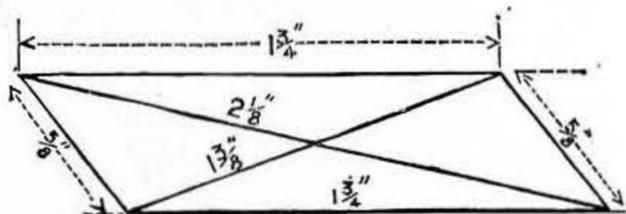
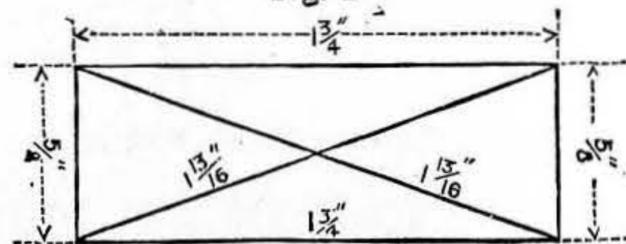

Fig. 1
Fig. 2
**Notes on Hand Saws.**—CHOPSTICK writes:—"Having read the article by M. Powis Bale on p. 421, I cannot resist the temptation to write a short criticism of the same, and I will state, at the beginning, that I am speaking from practice, while Mr. Bale is quite evidently speaking from theory alone. First, as to the form of teeth most suitable for different kinds of work. These most decidedly are for a hand saw, which everyone in the trade will know is meant for cutting across the grain only; the form shown in the article at Fig. 1 is the best. For a rip saw, that shown in Fig. 2. As to Fig. 3, it is most unsuitable for a hand saw of any kind, but is the right shape for a cross-cut for cutting logs, but for which is recommended the ridiculous shape shown in Fig. 7. Now as to the size of the teeth. For a hand saw, five teeth to the inch, and for a rip saw, three to the inch, is the best. And now a word or two as to sharpening and setting. The latter should be done first, and I advise everyone to stick to the old-fashioned set, and discard all patent spring delusions. With this and a proper taper saw file (a 4½ in. for a hand saw, and a 6 in. for a rip saw) I can, and so can everyone else if he tries, sharpen a saw so that it will cut any and every kind of wood, which is what is wanted, unless we can afford a separate saw for every kind of wood. In sharpening (after the setting is done, mind), keep the teeth of uniform size, all the same level, and your saw will work clean and easy. A good test is to hold the saw teeth upwards, with the point resting on the bench and the handle about a foot higher, then place a needle on the teeth at the highest point, and it should run to the bottom without falling off. I can sharpen a saw so that it will do so; can the author of the paper? I will guarantee that he cannot, or he would know more of the subject upon which he wrote. One more point I must touch upon, and I have done. It says: 'That for straight-grained wood the square tooth answers fairly well, but for cross-grained the tooth requires to be bevelled.' Now, the fact is just the opposite, which anyone can prove by a trial, though this is much more apparent in machine saws than in hand saws; but the fact is the same, nevertheless. I am sorry to take up space in this way, but I think that we practical men should have our say, as well as those who speak from theory only. The latter is a good thing, no doubt, but practice will stand on its merits, in certain cases, far better."
**Notes on Hand Saws.**—A. R. (Scorrier) writes:—"Whenever I see an article on saws, sawing, or on wood-working machinery of any description, it attracts my special attention. Now, one man's opinion may vastly differ from another's practical experience on the same subject. In No. 131, p. 421 of WORK, M. Powis Bale gives his opinion in reference to hand-saw teeth. As the object of WORK is to enlighten its readers, I venture to write as follows, but with due respect to M. Powis Bale: Figs. 1, 2, and 3, on p. 421, represent hand rip saw teeth, of which M. Powis Bale says Fig. 1 is undoubtedly the worst form. Herein I disagree with M. Powis Bale. I will allow that there should be a little more rake than represented in Fig. 1, but not near as much rake as in Figs. 2 and 3, which M. Powis Bale claims to be the better form. I do not hesitate to say that if any man tried to work a hand saw with rake in teeth as represented on p. 421, Figs. 2 and 3, that he found a difficulty in working it, and that if he persisted in working it that his saw soon became buckled. If the readers of WORK have followed the articles by M. Powis Bale on saws, they might have noticed the following statement that the teeth of a circular saw driven by steam-power can be worked with more rake than a vertical or frame saw, because it is driven at a high speed. I suppose there are but few men that have had greater experience in sharpening of circular saws than myself, and the rake represented in Figs. 2 and 3, p. 421, for a saw to be worked by hand, is more than I should give in teeth of a circular saw for general work driven by steam-power. In reference to teeth, Fig. 7, p. 421, I can say nothing of its merits or demerits in reference to its cutting qualities. I believe it is generally understood that the ordinary teeth in two-handle cross-cut saws, if the angles are suitable for the work it has to do, are best. There are many forms of teeth claimed to be of American origin, but even in that country the ordinary teeth are principally used. I might give several reasons why the ordinary tooth is preferred. Again, I might write in reference to the M shape tooth (Fig. 6, p. 421), proving that the general hand-saw tooth is preferred, but defer writing until a future occasion."
picture-frame makers that I have ever seen take great care, when making a frame, to make the opposite sides of it equal. They first make the moulding for one side the required length, and then they adjust the moulding for the opposite side until it is exactly the same size. Again, if a figure have its opposite sides equal, but its diagonals unequal, the angles will not be right angles. (Fig. 1.) But if a figure have its opposite sides equal and its diagonals equal, then its angles are bound to be right angles. (Fig. 2.) This can be proved with the aid of Euclid, Book I, as follows:  $\angle BAC = \angle DCA$  (I. 8).  $\therefore AB$  is parallel to  $DC$  (I. 27), and  $AB = CD$ .  $AD$  is parallel to  $BC$  (I. 33)  $\therefore ABCD$  is a parallelogram. Now  $\angle ADC = \angle BCD$  (I. 8).  $\therefore \angle ADC = \frac{1}{2} \angle ADC + \frac{1}{2} \angle BCD$ . But  $\angle ADC + \angle BCD = 2$  rt. angles (I. 29)  $\therefore \angle ADC = 1$  rt.  $\angle$ ;  $\therefore \angle DAB, ABC$  and  $BCD$  are each equal to  $1$  rt.  $\angle$ . I hardly think that J. C. K. will now protest against this method of testing the accuracy of framework, since it is proved here on
size the bookcase is. Those referred to are about 2 ft. 6 in. wide, by 2 ft. 2 in. high out to out. Fig. 1 shows part of one top rail, style, and two bars. Fig. 2 is a section through one style and one bar, showing how the glass is fixed in, etc. Fig. 3 shows an easy way of making the joint where the bars meet. The fronts of the horizontal bars are housed out, and the backs of the vertical bars are notched out to pass over the part left on the horizontal bar. Any turner will do the turning required; it is a very simple job. You will not have any difficulty in getting the bevelled glass in Manchester; but as the glass is rather a serious item, I should advise you to make inquiries as to price at several glass merchants. If any other troubles crop up as you go along, let me know, and I shall have much pleasure in putting you right.—E. D.
**Bicycles.**—F. S. (*Kidderminster*).—It is probably as well that you and your friends gave up solving the puzzle of the bicycle, and it would have saved some time, no doubt, if you had never attempted it, especially when it was plainly visible that the description had not been written by a man who was of a mechanical turn. To get you out of your difficulty I send sketches and a condensed description of the specification. What the inventor intends to gain by his arrangement I do not know, as the seat must be thrown very far back, and the ordinary chain driving seems to me far more mechanical and a great deal simpler. The condensed specification runs as follows:—"My improvement consists in contracting the hub so that the main driving spindle shall pass through the wheel and toothed hub revolving round the spindle. The spindle carries an internal toothed wheel, the teeth being semi-circular and gearing into similar teeth on the hub on one side of the wheel. I make a drum or hub of suitable size, D (Fig. 1), having teeth on the outside, T, into which drum I place a disc or cone, C, at each end. Fig. 2 shows a side elevation, with a few spokes and rim of wheel, the cones being joined together by a spindle, J, extending above and below crank, K, the said disc or cones being made suitable for ball bearings, now in general use. The said discs being eccentric, and having the hole bored near the edge, E, I place the driving spindle, S, in and through, the said spindle carrying an internal toothed gear wheel, G, so slipping into, or engaging, with the teeth on the drum, D; the said toothed gear wheel, G (Figs. 1 and 2), on the spindle exceeding the size of the one